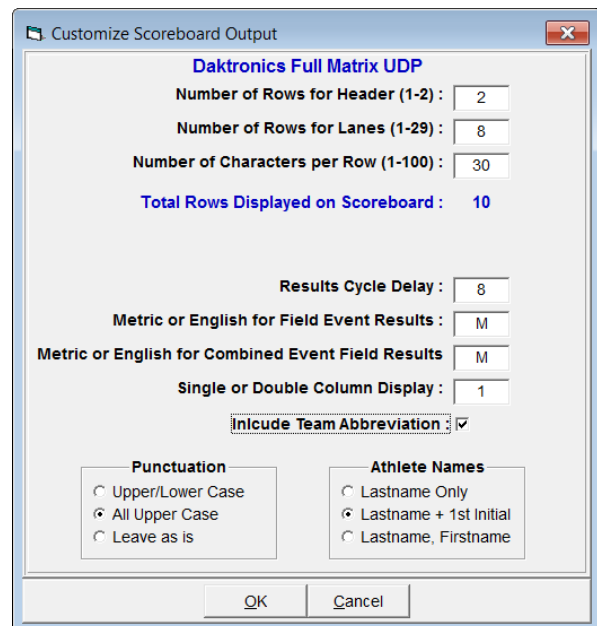

Figure 30: Customize Scoreboard Output - Daktronics Full Matrix (UDP)
7. Go to **Interfaces > Scoreboard – Daktronics Full Matrix > Customize** (Figure 30).